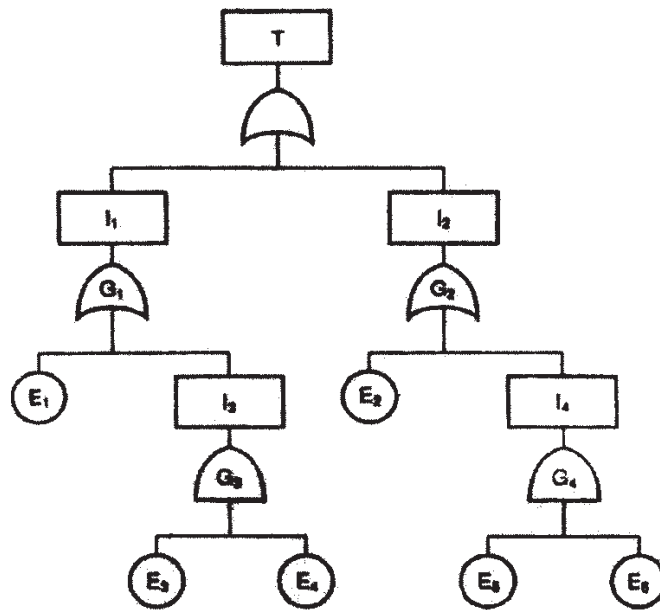

Fig. 3
- b) The fault tree diagram is shown in Fig. 3. The failure probabilities of the elements are as given below. $E1 = E2 = 0.01$, $E3 = E4 = 0.002$, $E5 = E6 = 0.1$. Find out the failure probability of top event and system reliability. [10]